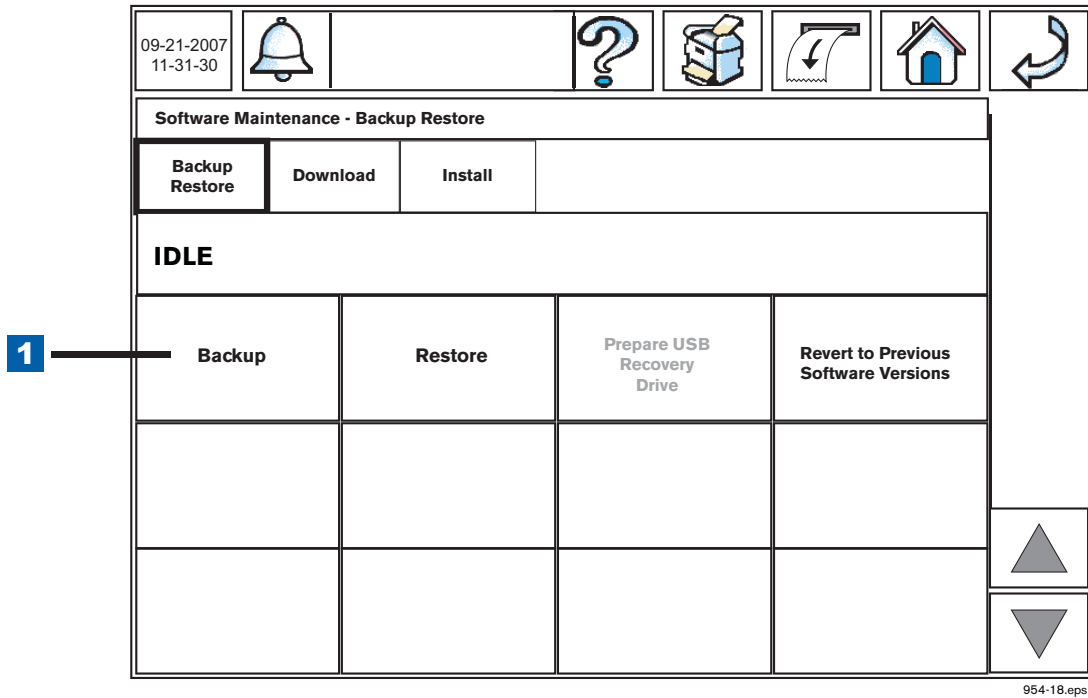

Figure 4. Initiating a System Backup
3. Touch the Software Maintenance button on the Diagnostic Maintenance screen (see Figure 3) to open the Software Maintenance - Backup Restore tab screen (see Figure 4).
4. Touch the Backup button (item 1 in Figure 4) to begin the system backup process.
LEGEND FOR NUMBERED BOX IN Figure 4